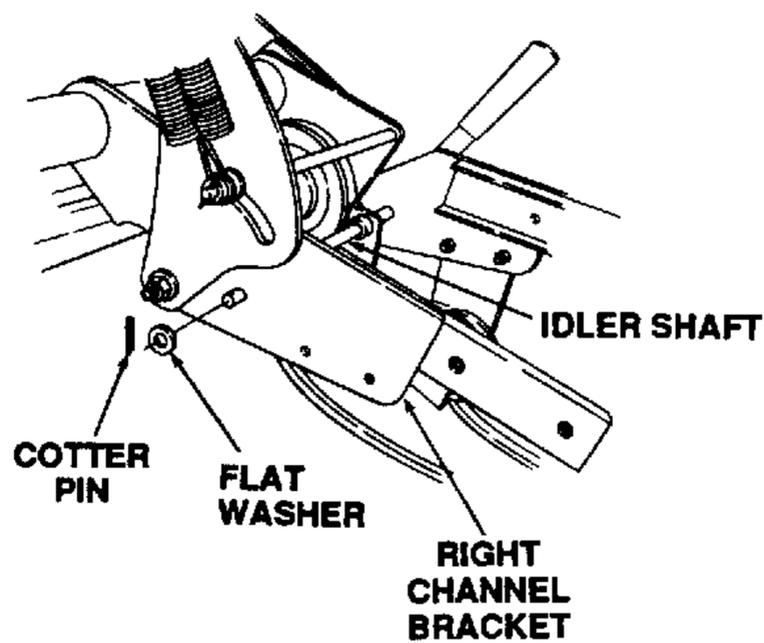

Figure 7-55. Securing Idler Shaft.
- Push the idler shaft through the rearward hole of the right channel bracket. Slide the flat washer (34) onto the end of the idler shaft and secure with a cotter pin (35). Refer to Figure 7-55.